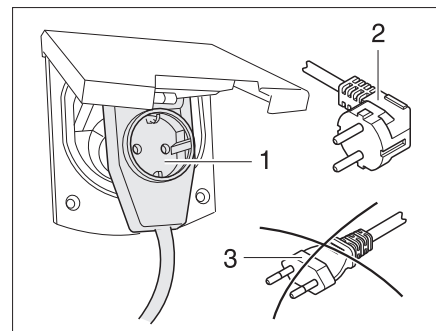

Fig. 96 Connecting an angled connector with socket
- ▶ If a CEE 17 angled connector with socket mounted on rear (Fig. 96,1) is used, use only a rubberised and sealed IP 44 plug with earth contact (Fig. 96,2). Do not use a plug without earth contact (Fig. 96,3). Danger of electrocution!